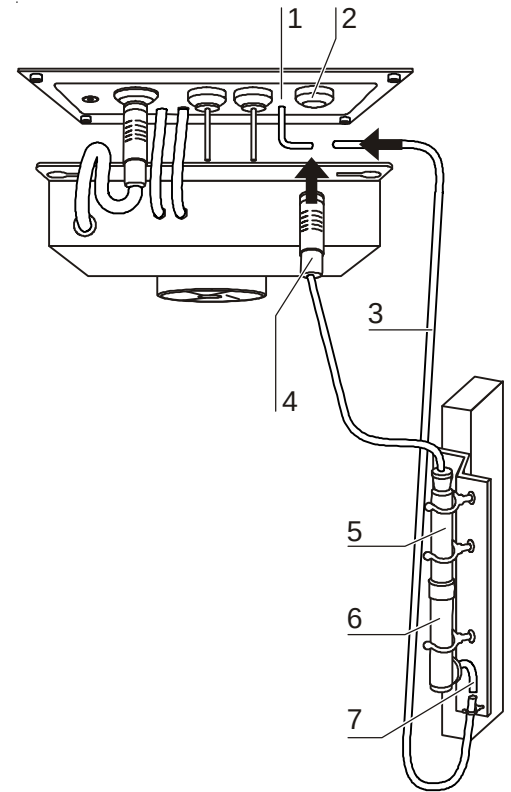

Fig. 20
10. **Fig. 20:** Install electrode [5] to electrode holder [6] at lift linkage.